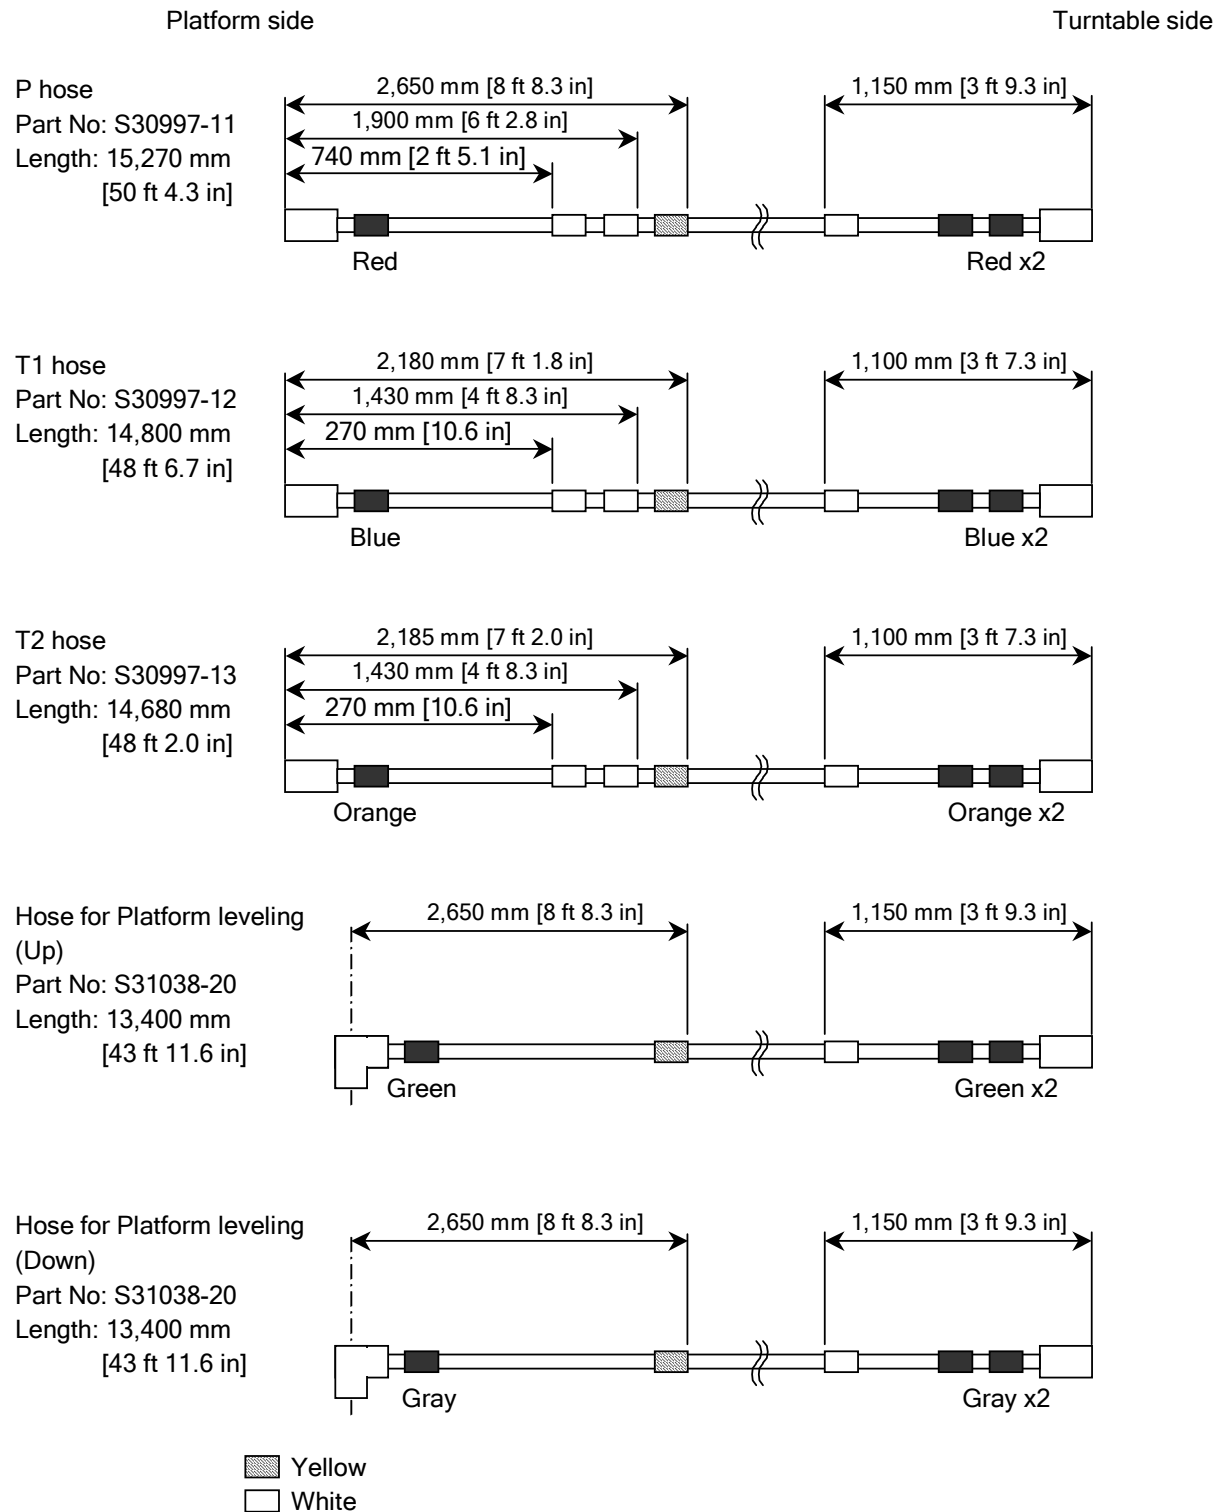
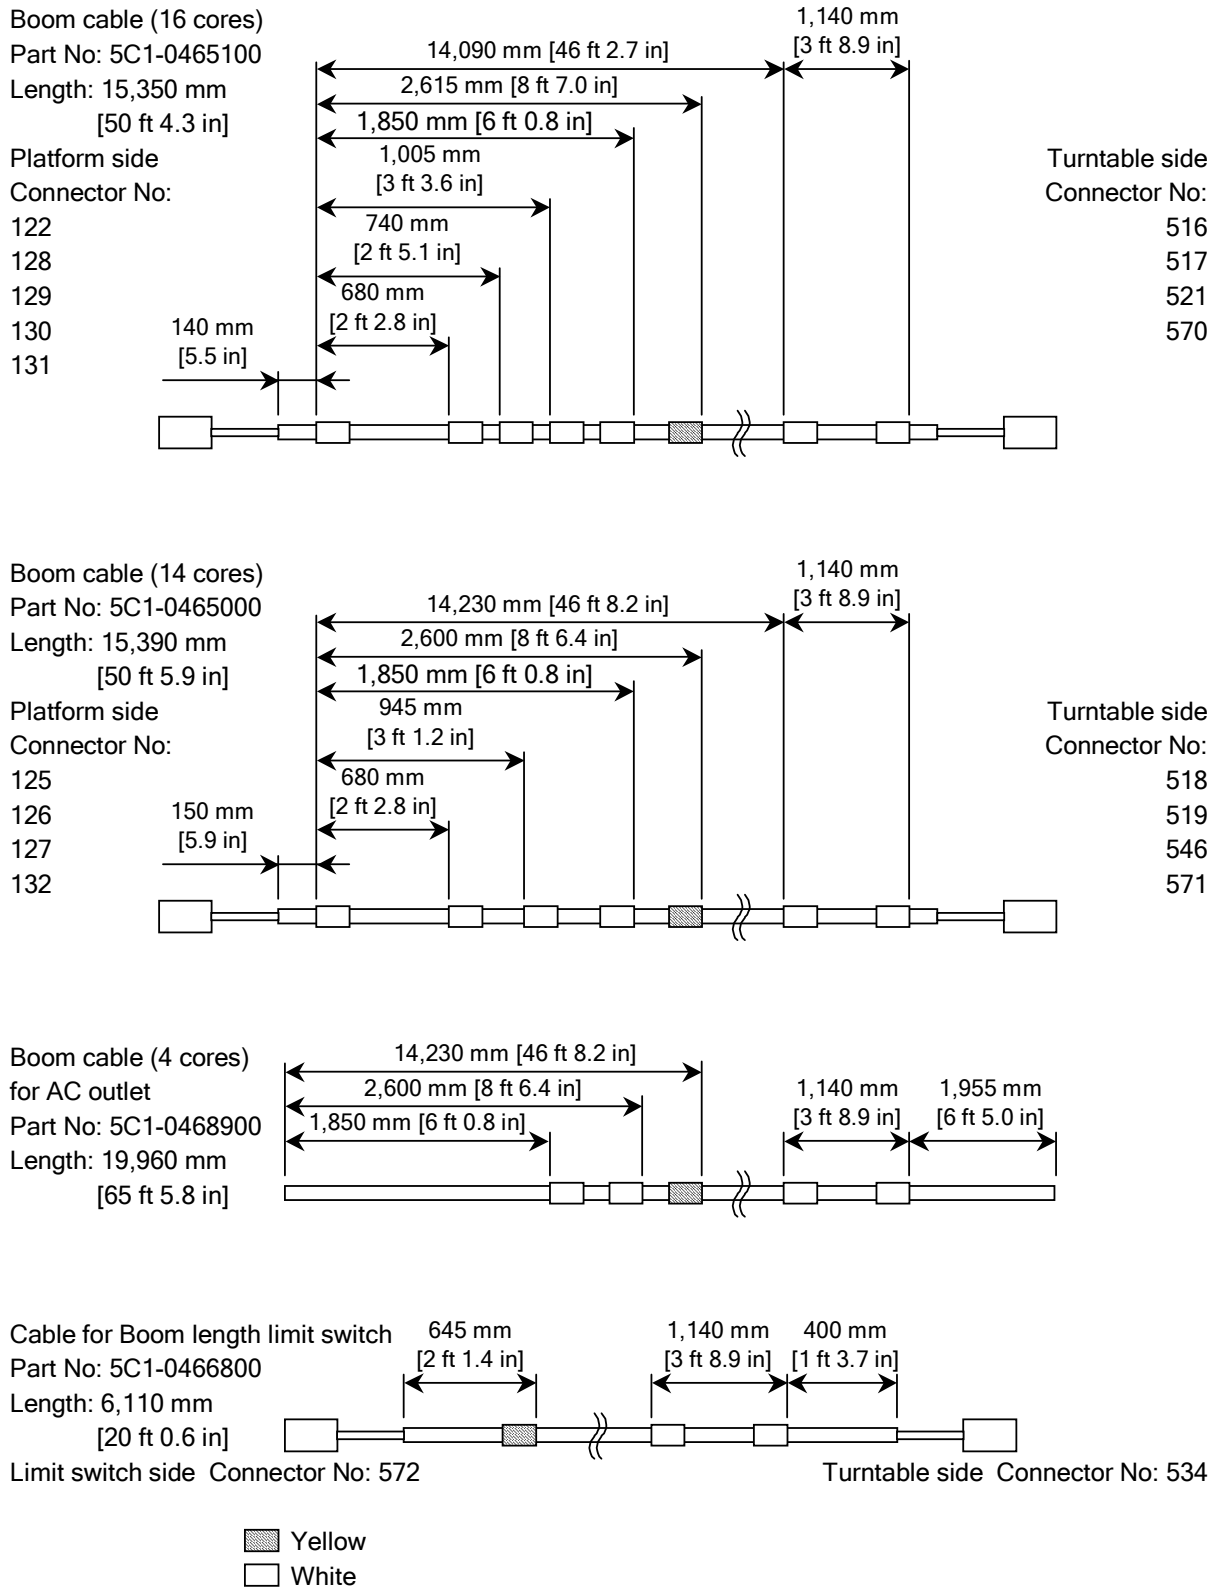

Fig. 2-51
Fig. 2-52
- 1) When replacing the boom cables and/or hydraulic hoses with new one, put the designated colored vinyl tape on them to identify each cable/hose and their specific position as shown in Fig. 2-51 and Fig. 2-52.